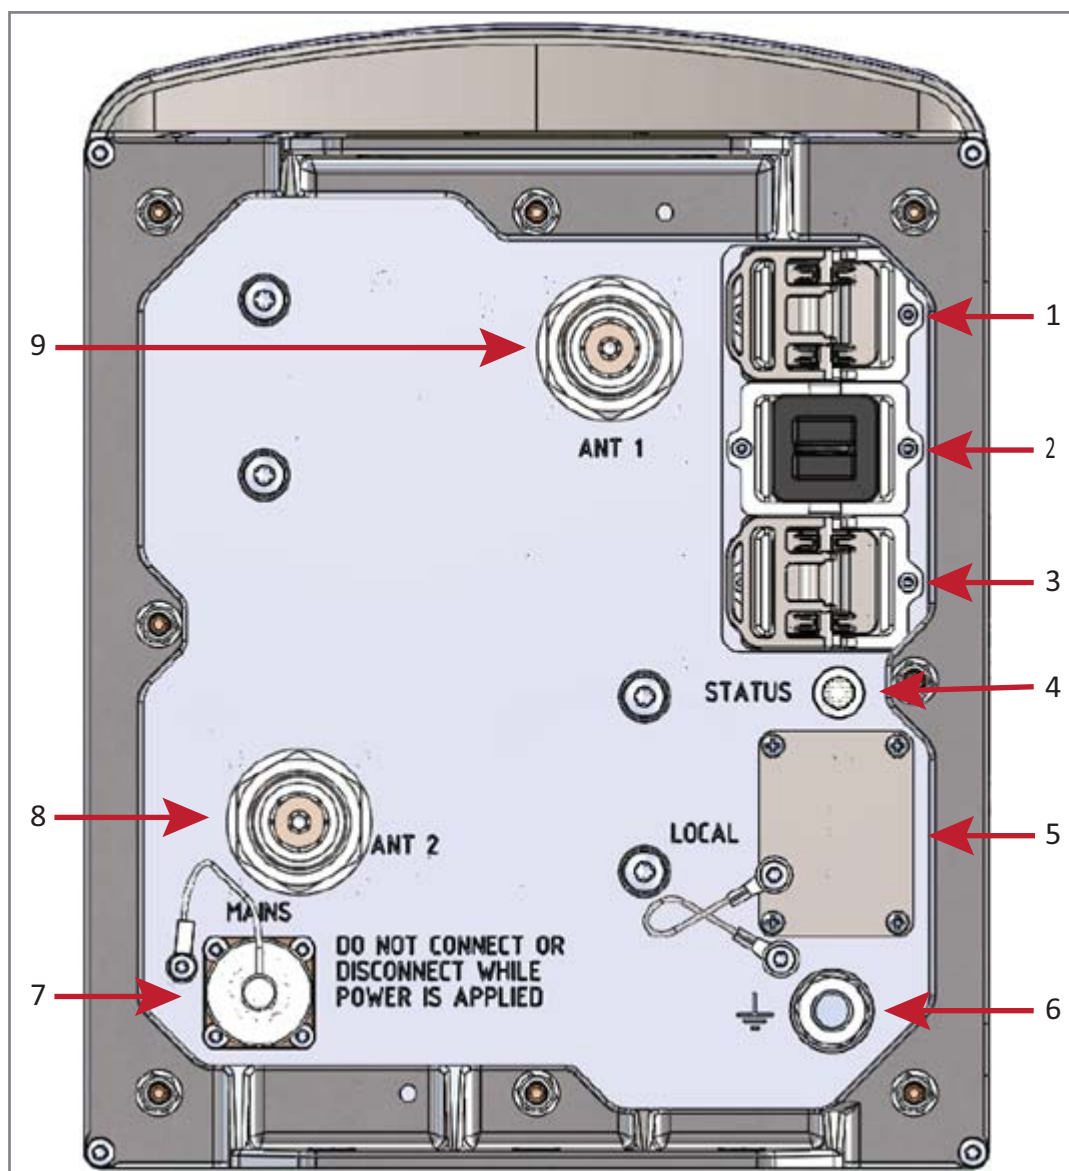
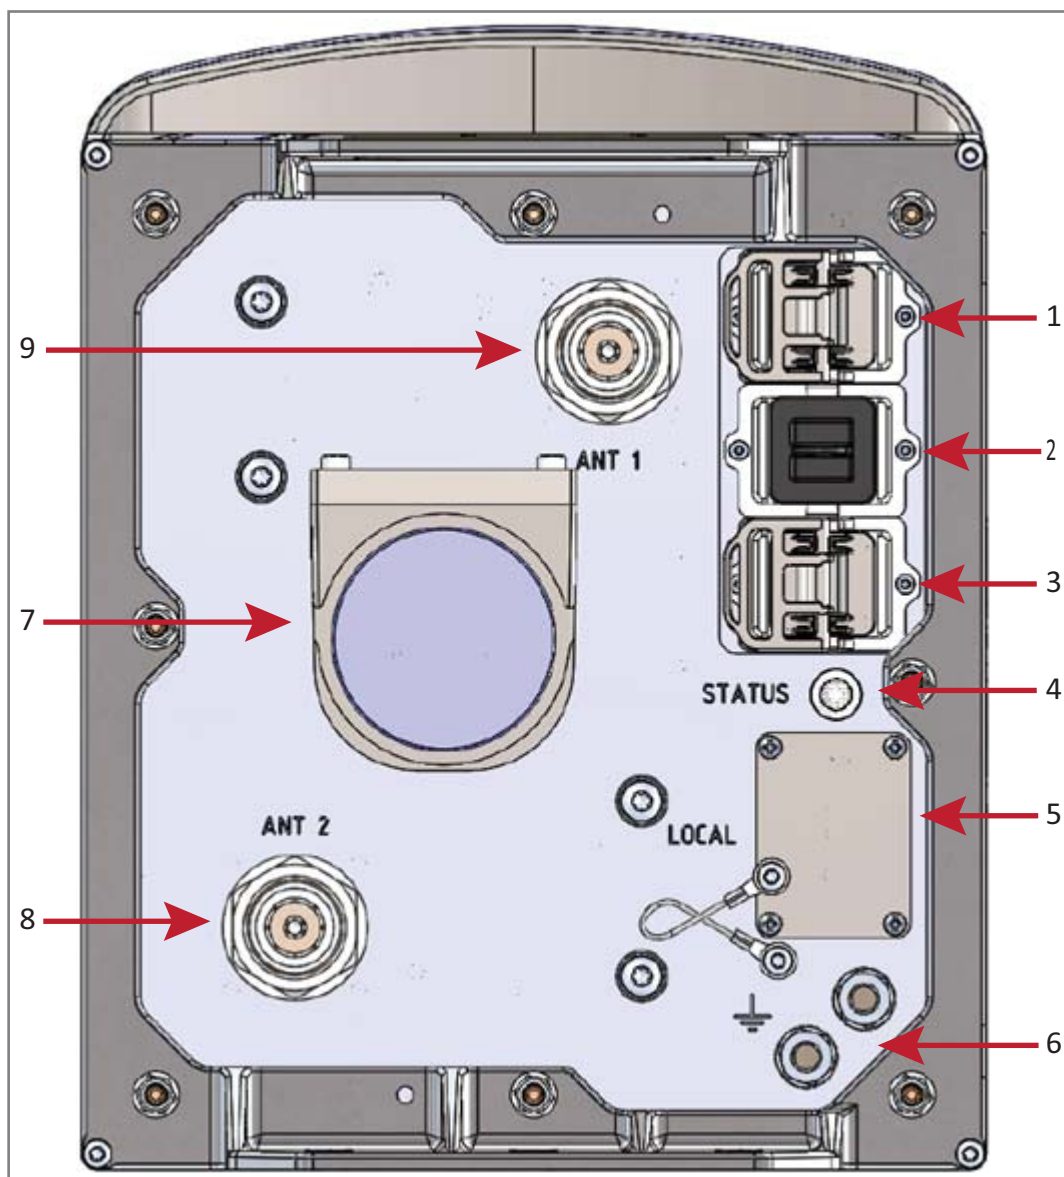

Figure 4. Location of Connectors and Status LED on AC Version with Two Antenna Connectors
Figure 5. Location of Connectors and Status LED on DC Version with Two Antenna Connectors
- Figure 4 shows the connectors on an AC version with two antenna connectors.
- Table 3 on page 10 maps the callouts in Figure 4 and Figure 5 on page 11 and describes the connectors and STATUS LED.
- Figure 5 on page 11 shows the connectors on a DC version with two antenna connectors.
The “REF #” column in Table 2 refers to the callouts in Figure 2 on page 6 and Figure 5 on page 11.